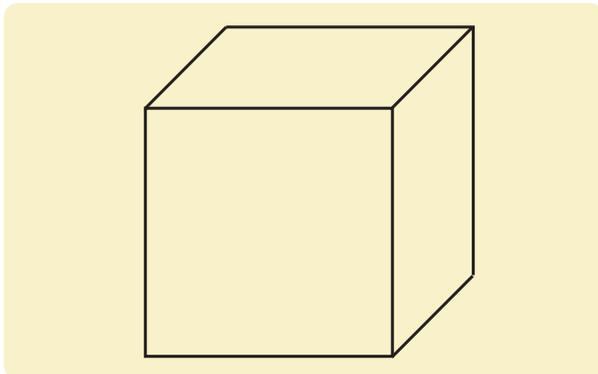

Figure 2.26 Mark the outlines of the drawing with bold lines.
- 5 Look at the drawing and the box again. On your drawing, draw over the lines that you see on the real object to make them darker. We call these bold lines. Using a pencil eraser, rub out the construction lines that do not make up part of the object that you can see, as shown in Figure 2.26.